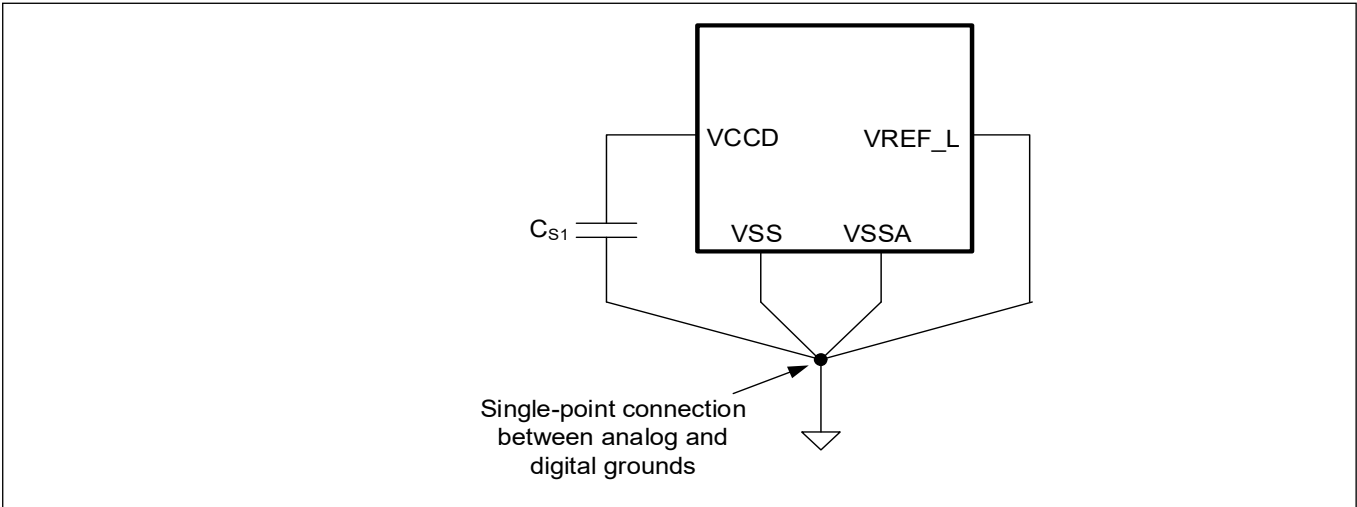

Figure 11 Smoothing capacitor
62. Only one smoothing capacitor, C_{S1} is required per chip (not per VCCD pin). The VCCD pins should be connected together to ensure a low-impedance connection (see the recommendation in Figure 11).